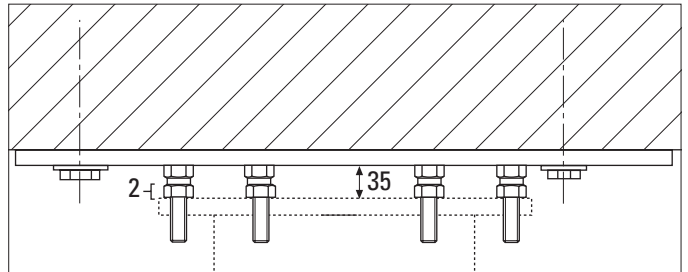

Fig. 3
- ⇒ Screw the upper 6 nuts M12 (2) onto the threaded rods until the defined distance of 35 mm between the lower edge of the bracket and the lower edge of the nuts is reached (Fig. 3).